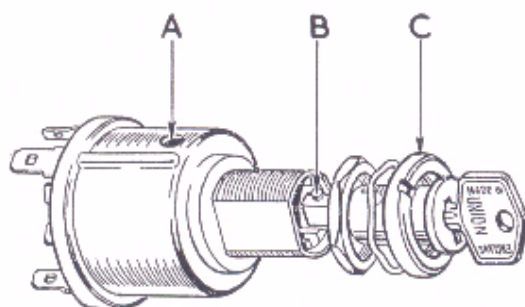

FIG. G10. The ignition switch.
The "Lucar" connections from the wiring harness should be checked periodically to ensure good electrical contact. The switch body may be released from its mounting by removing the plated nut "C", Fig. G10.
The lock is retained in the body of the switch by a spring-loaded plunger (B, Fig. G10). This may be depressed with a pointed instrument through a small hole in the side of the switch body (A) and the lock assembly withdrawn after the whole unit has been detached from the electric box.